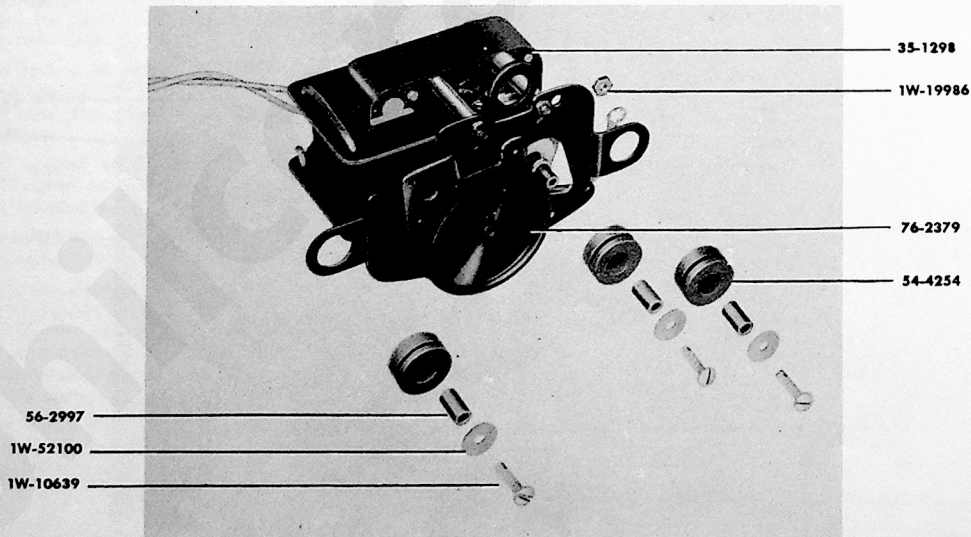

Figure 23—MOTOR AND IDLER-WHEEL ASSEMBLY,
- Remove three screws, washers, spacers, and rubber mounting grommets. See figure 23.